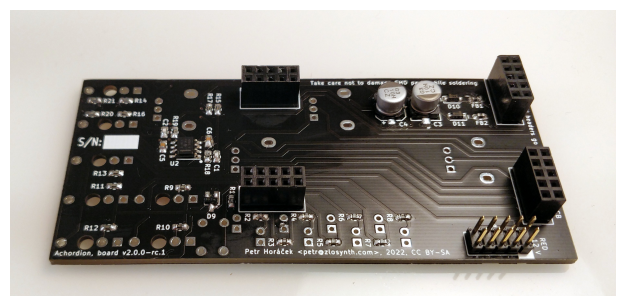

Figure 3: The power and submodule connectors
2. Solder all the pins in. The result is illustrated in figure 3.